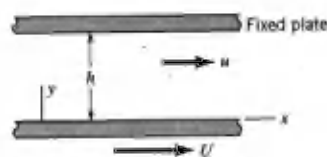

FIGURE P7.12R
7.12R (Dimensionless governing equations) An incompressible fluid is contained between two large parallel plates as shown in Fig. P7.12R. The upper plate is fixed. If the fluid is initially at rest and the bottom plate suddenly starts to move with a constant velocity,  $U$ , the governing differential equation describing the fluid motion is